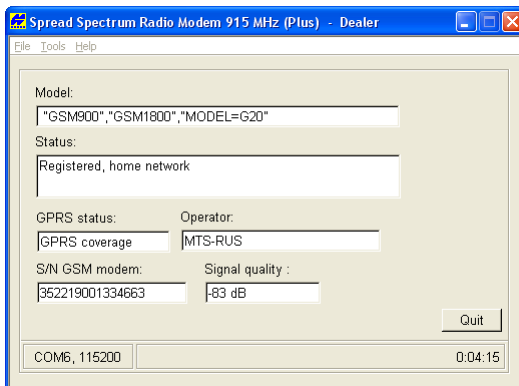

Figure 3-6. View GSM Information
- To view GSM modem information, click **GSM info** (Figure 3-6). Click **Quit** to return to the *GSM* tab.